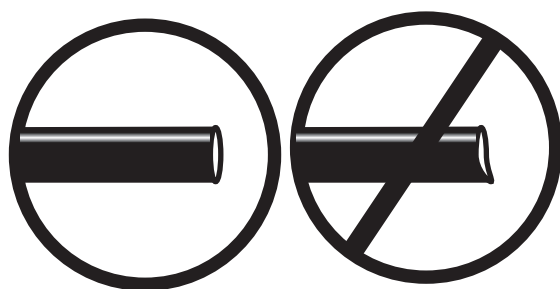

fig. 7
- a. Check the air line connection by deflating the spring and removing the line by pulling the collar against the fitting and pulling firmly on the air line. Trim 1" off the end of the air line. Be sure the cut is clean and square (see fig. 7). Reinsert the air line into the push-to-connect fitting.